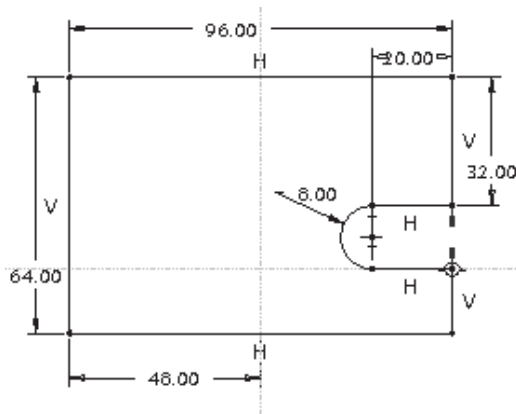
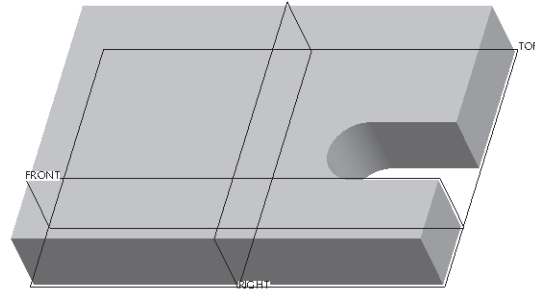

Figure 4-75 Sketch with dimensions and constraints for the base feature
Figure 4-76 Base feature of the model
- Create the base feature, refer to Figures 4-75 and 4-76.
The sketch for the base feature consists of a rectangular shape with a slot, as shown in Figure 4-75. When this sketch is extruded, it will create the base feature with the slot, as shown in Figure 4-76.
1. Draw the sketch using various sketcher tools and add the required constraints and dimensions to it. Modify these dimensions, as shown in Figure 4-75.
5. Choose the **Build feature** button from the **Extrude** dashboard. The base feature is completed and is shown in Figure 4-76. You can use the middle mouse button to spin the object to view it from various directions.